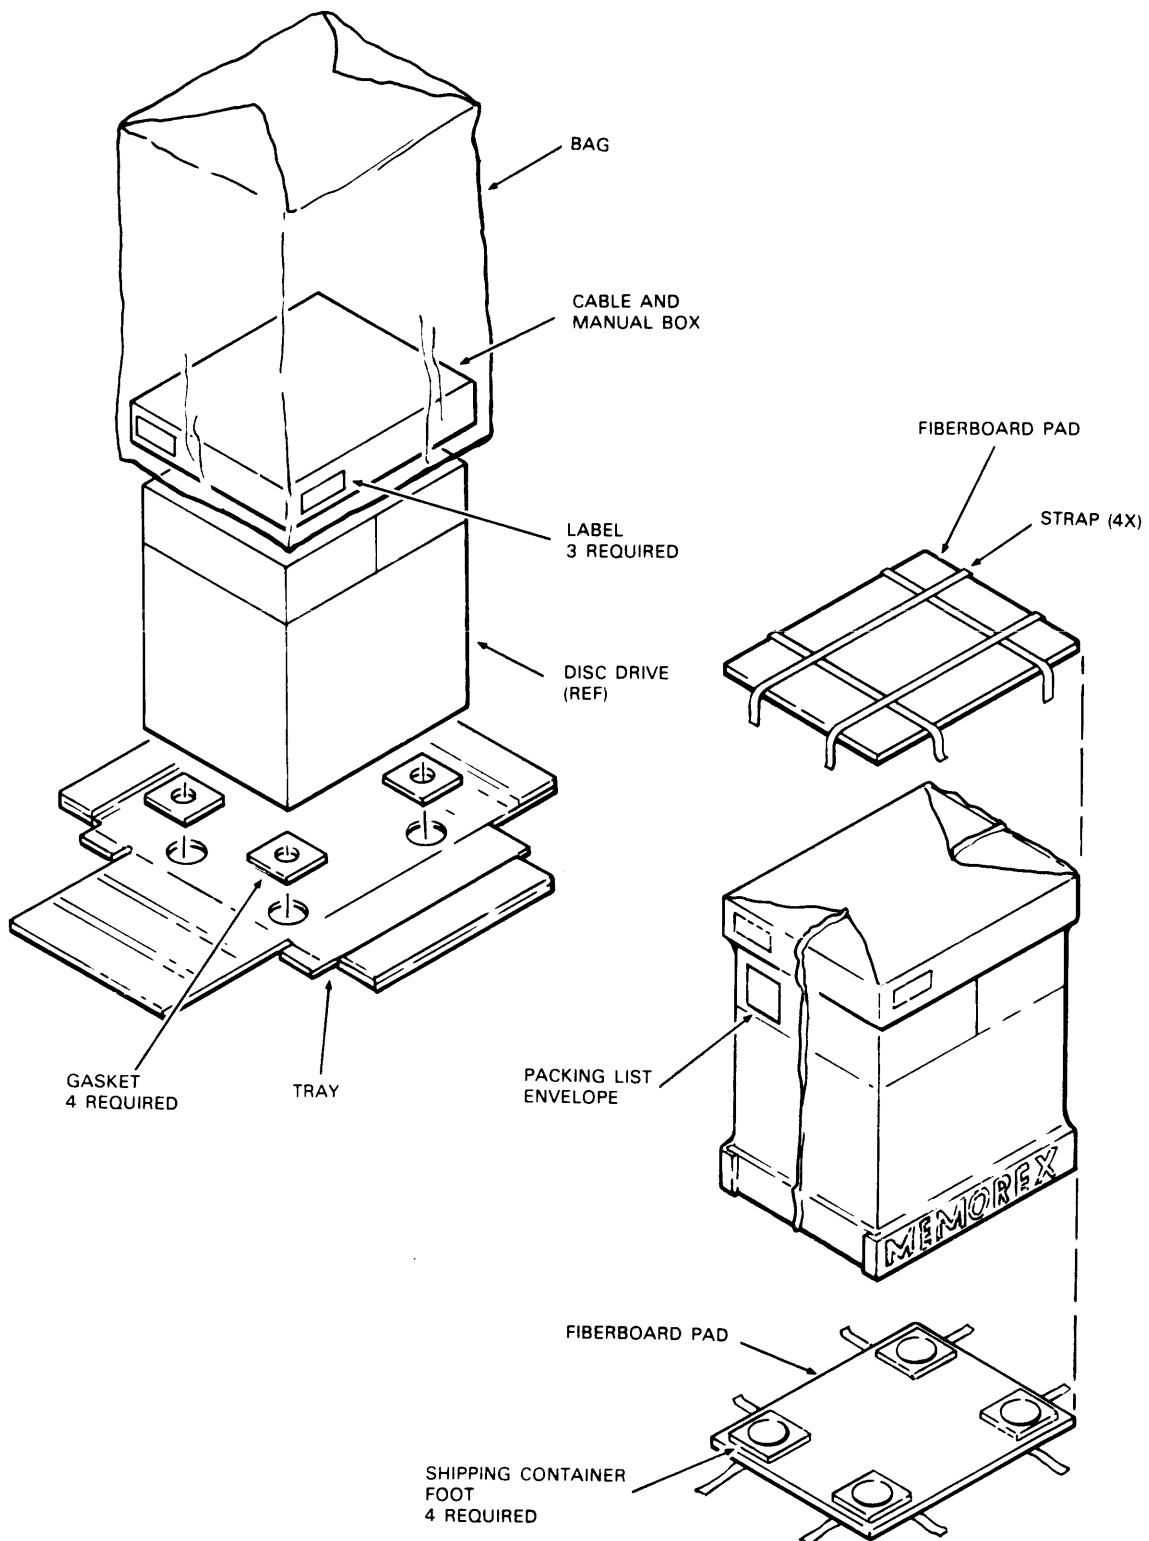

FIGURE 3-1. DRIVE PACKING CRATE
- a. Cut the four (4) straps and remove from container. (Refer to Figure 3-1.)
3. Slit the shrink bag from top to bottom along the center side of the package marked **OPEN THIS SIDE**, and along the center top side of the equipment box. (Refer to Figure 3-1.) To avoid scratching the paint while cutting the bag, grip the seam running from top to bottom and pull the bag away from the drive.